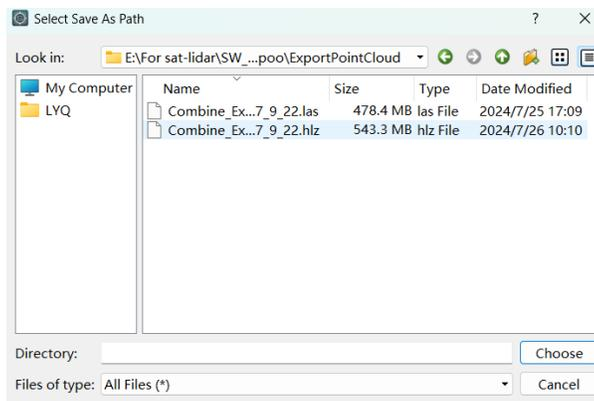

Figure 3-176 Point Cloud to Image
- Click <Toolbox> → <Format Transform > → <Point Cloud to Image> on the main interface (Figure 3-176), the dialog box of Select Save As Path, select the folder to save the image.